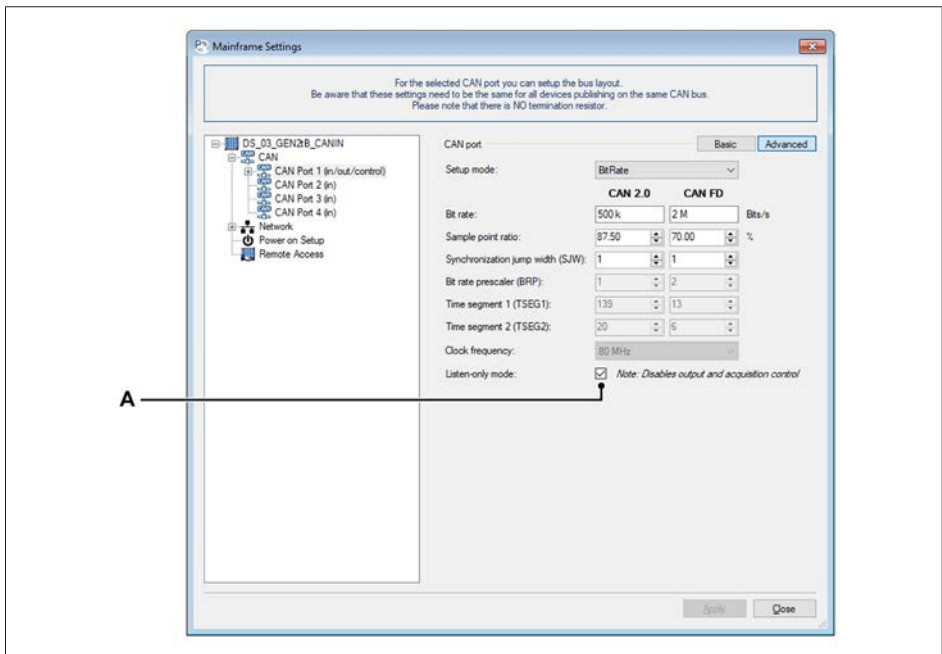

Fig. 12.14 General CAN Settings
- The used Bit rate (see Fig. 12.14) needs to be checked.